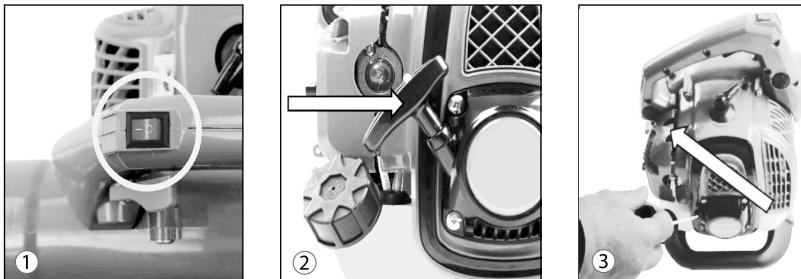

Fig. 7
1. Turn the power switch (1) to the 'I' ON position.
2. Pull the recoil starter handle (2) until you feel resistance.
3. Once you feel resistance, pull the recoil starter handle swiftly upwards (3) (Fig.7)